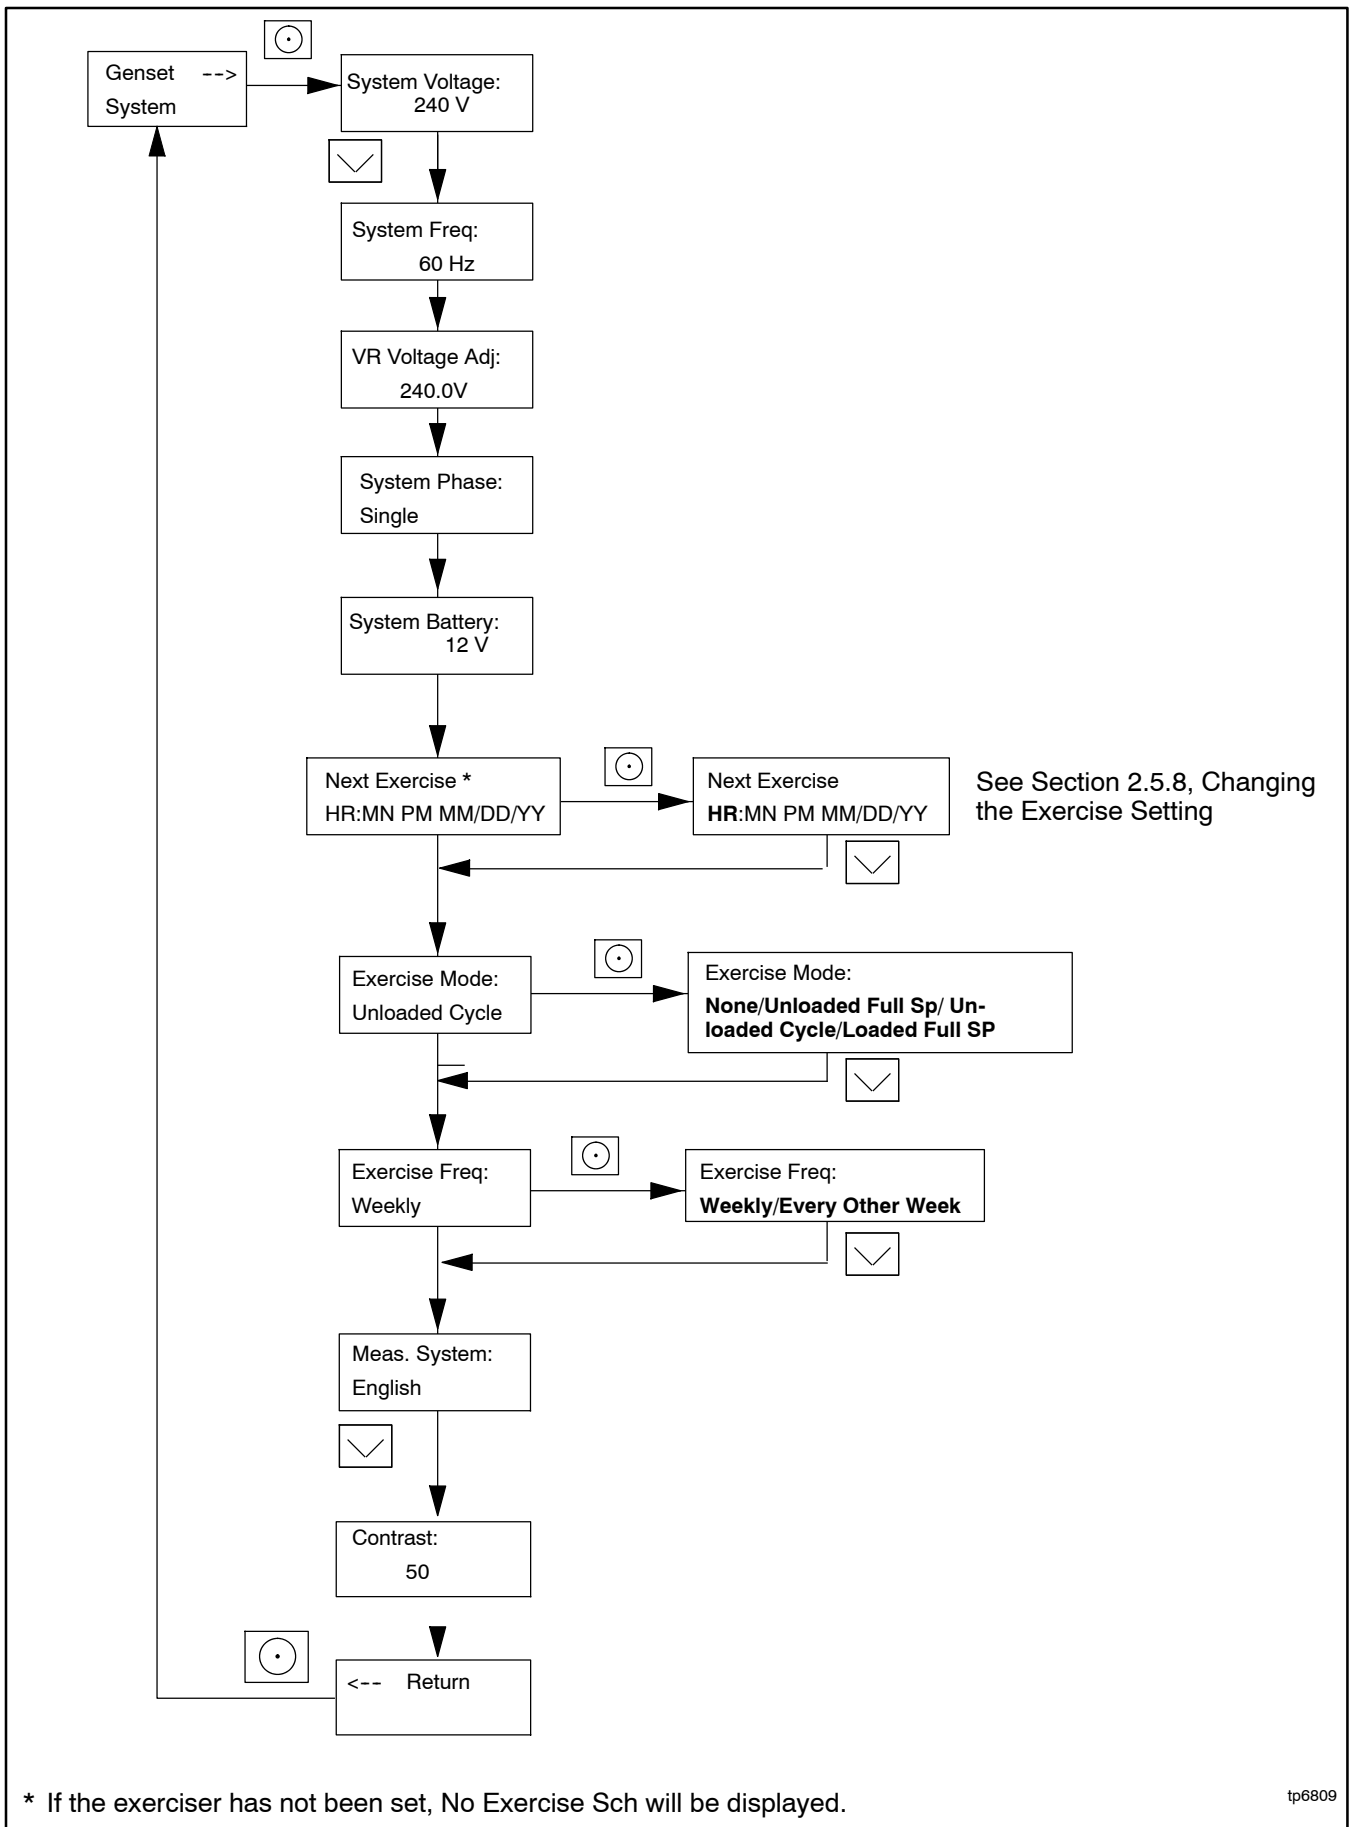

Figure 2-3 Procedure to Set the Exerciser
To set an unloaded full speed exercise, follow the procedure in Figure 2-3 and select Exercise Mode: Unloaded Full.
Set the date and time on the controller before setting the exercise schedule. Set the exerciser to automatically run the generator set for 20 minutes every week or every two weeks. Follow the procedure below and see the flowchart in Figure 2-3 to set the exercise time and date, mode, and frequency.
4. Press the Select button to enter the Genset system menu. See Figure 2-3.
11. If the generator set is connected to a Kohler® Model RXT transfer switch, the exercise can be changed to a loaded exercise. Set the Exercise Mode to loaded full speed, unloaded full speed, or unloaded cycle as shown in Figure 2-3.